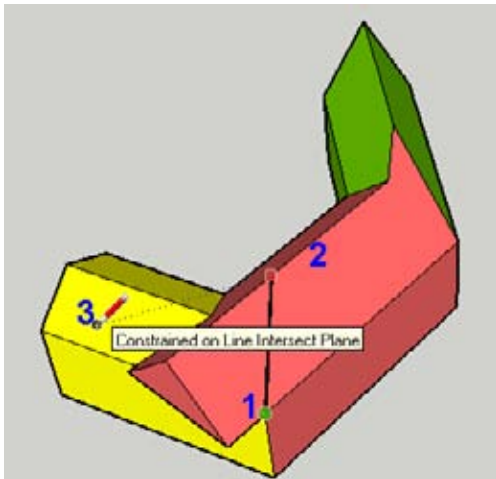

Figure 5-72
10. Now for the other corner. Start a line at point 1 in Figure 5-72, hover over edge 2 and hold Shift, and constrain the endpoint of the line to face 3.